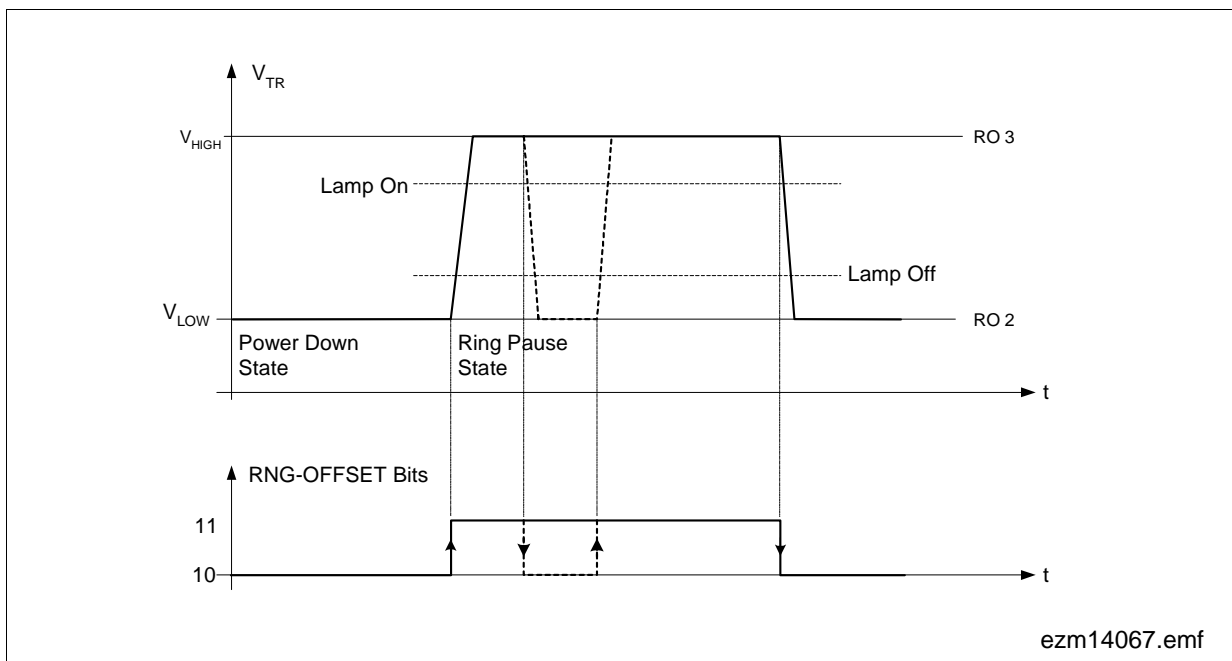

Figure 37 Timing Diagram
- Switching between the Ring Offsets RO3 and RO2 in register LMCR3 will flash the lamp on and off (see Figure 37).